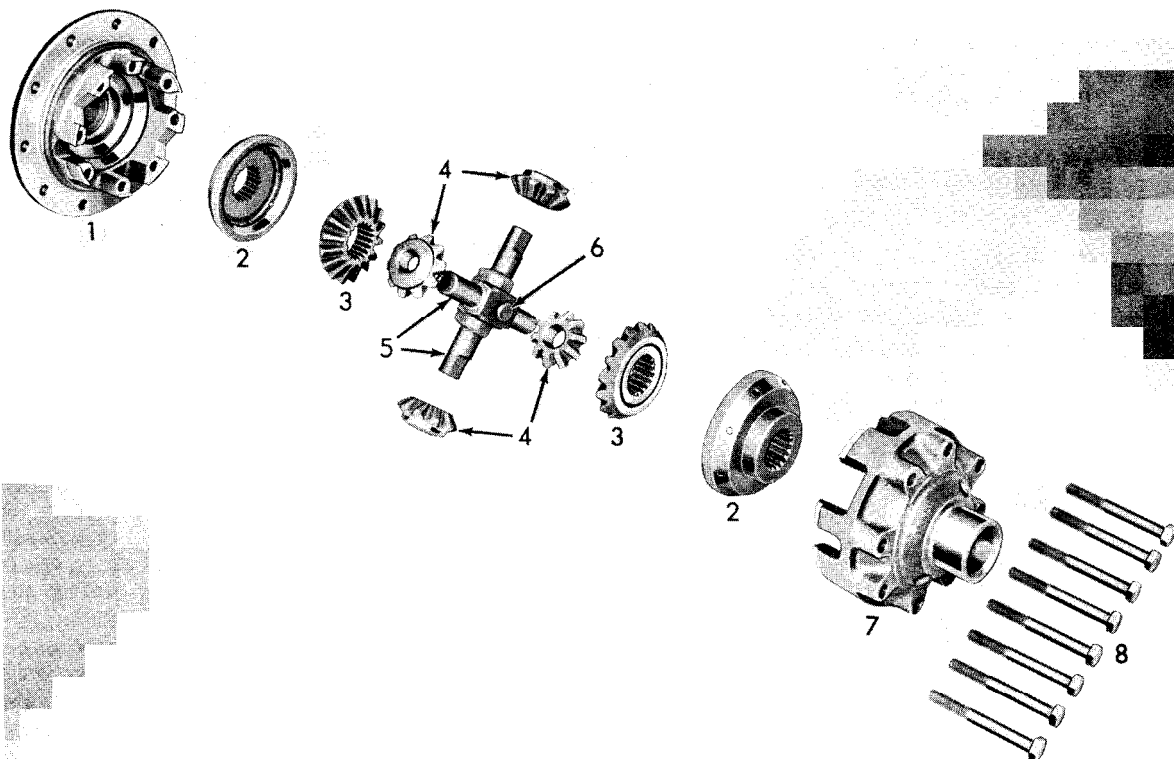

Fig. 1
The differential assembly consists of two case halves (1 and 7, Fig. 1), two cross pins (5), differential pinions (4), bevel side gears (3), clutch rings (2), and axle shaft thrust block (6).